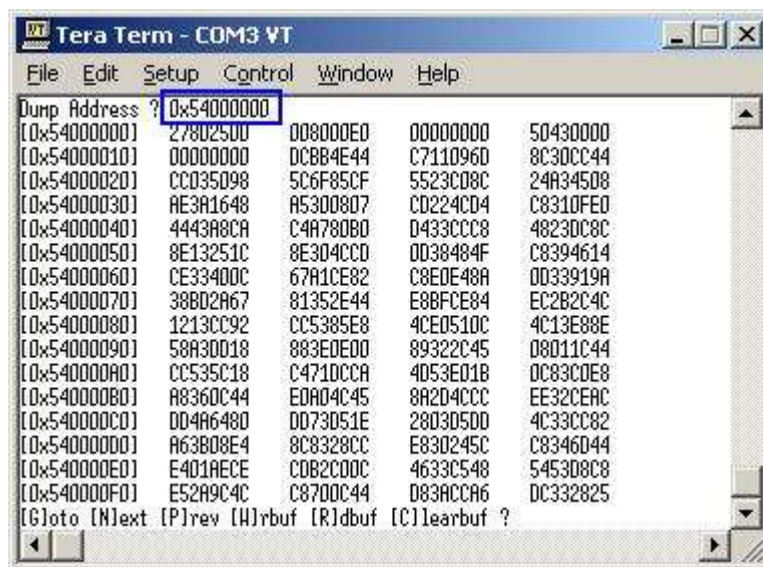

Figure 15 Goto submenu example
- 'G': this submenu is used to select the address to read, as shown in Figure 15. The address can be input to be hex value by adding prefix "0x", so decimal value will be received with no any prefix.